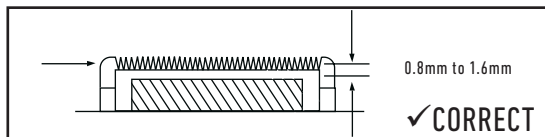

Fig. 2
4. To re-assemble, position the large top blade on top of the small bottom blade by matching them up, point to point. The blade teeth on the large top blade should be 0.8mm to 1.6mm back from the small bottom blade (see Fig.2).